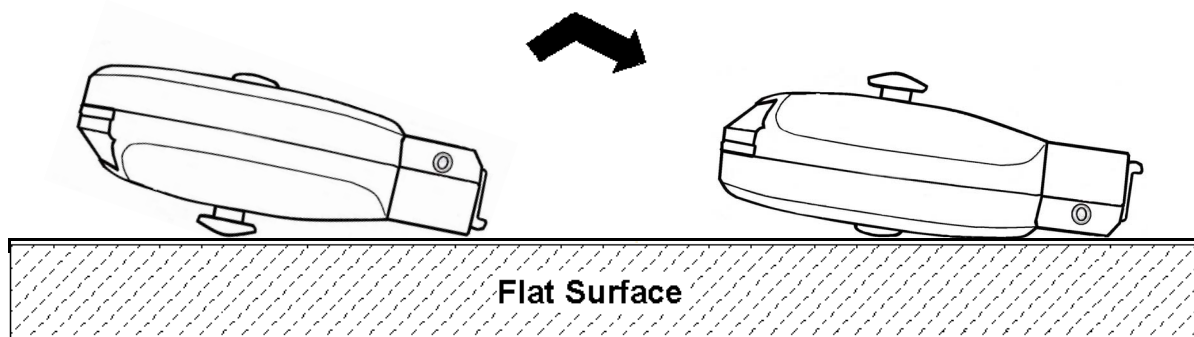

Figure 7 Checking a Toco Transducer
- 3 Lay the transducer face up on a hard, flat surface for a few seconds, so that the belt button and the take-out aid end of the transducer make contact with the surface (see Figure 7 on page 74).
- 5 Turn the transducer over so that the Toco sensor is resting on the flat surface. The transducer will always adopt the same, slightly inclined position, with the take-out aid end of the transducer also resting on the surface (see Figure 7).